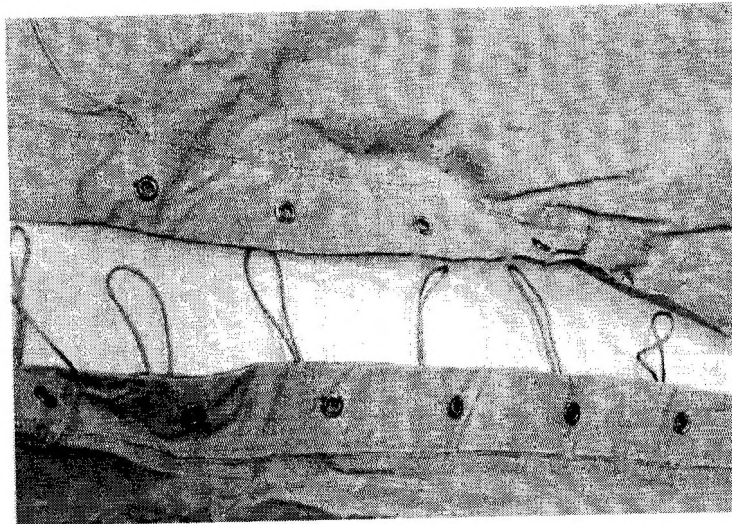
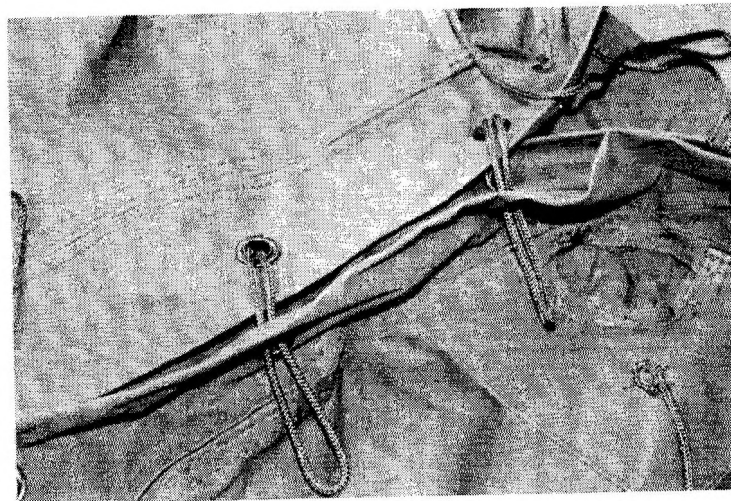
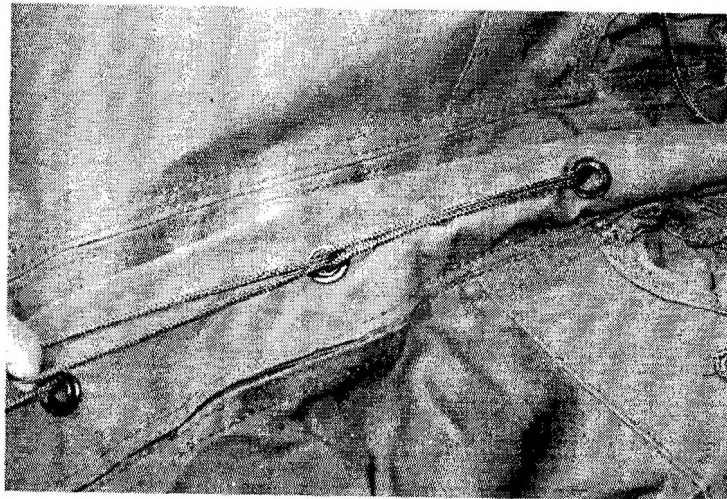

Figure 27: Lacing cover sections (1)
Figure 28: Lacing cover sections (2)
Figure 30: Lacing cover sections (4)
21. With the MK4 shelter system there are options for assembly. The tent can be erected using keder rails or the roof and wall sections can be pre-laced together as detailed in Fig 27 to 34. If the tent is being erected using a combination of MK 4 and earlier cotton canvas panels then you can utilise a combination of the two or just dutch lacing.
39. The dutch lacing is installed by aligning the eyelets as detailed in Fig 27. Then passing the loops through the eyelets Fig 28. The top loop is them looped over the next loop down Fig 30. Finally, the bottom loop is secured by a toggle or tie Fig 33.